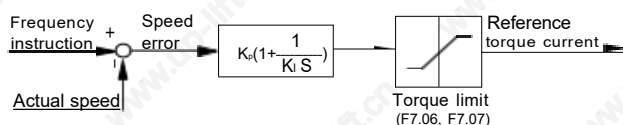

Figure 6-15 Simplified speed regulator diagram
1. Structure of speed regulator (ASR) is shown in Figure 6-15, where  $K_p$  is proportional gain P, and  $K_i$  is integral time I.